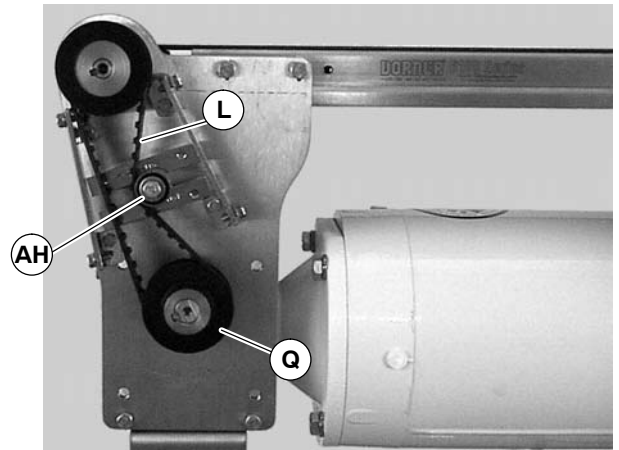

Figure 37
- Loosen tensioner (AH of Figure 37).